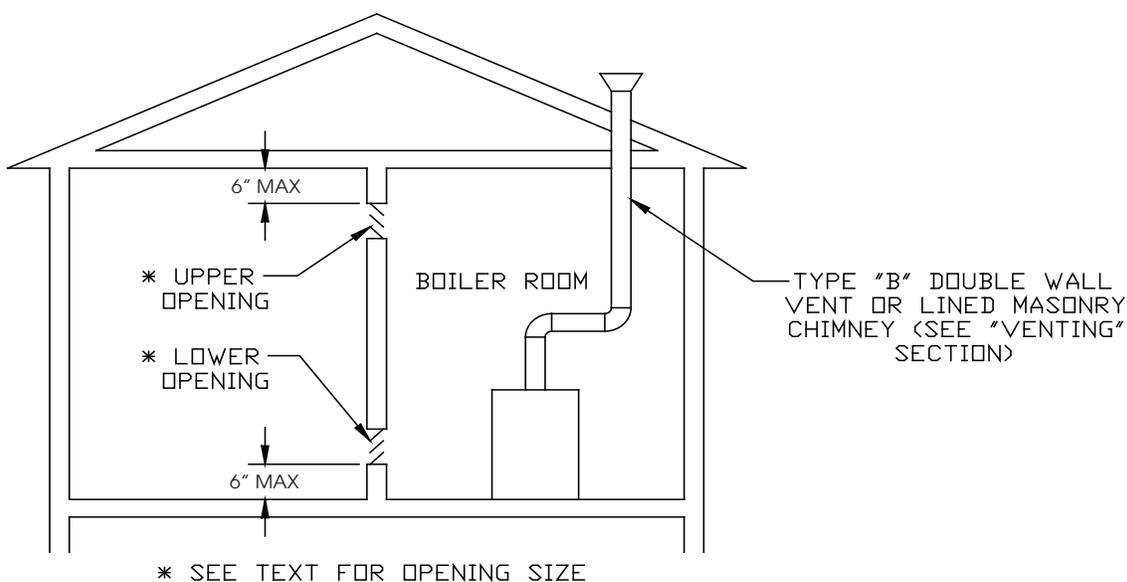

Figure 6-1: Indoor Combustion Air Method
4. If the result is at least 50 ft.³ per 1,000BTU/hr., and neither of the conditions described in (6) below are met, normal infiltration should provide adequate fresh air into the boiler room.
5. If the result is less than 50 ft.³ per 1,000BTU/hr., provide two openings into the boiler room, one near the floor and one near the ceiling. The top edge of the upper opening must be within 6 in. of the ceiling and the bottom edge of the lower opening must be within 6 in. of the floor (Figure 6-1):